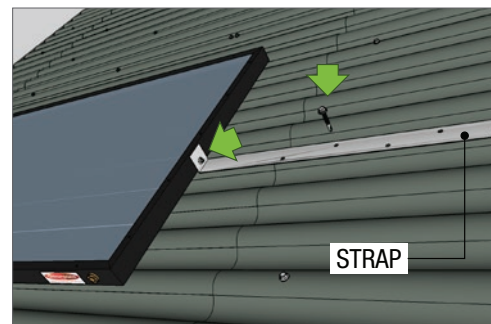
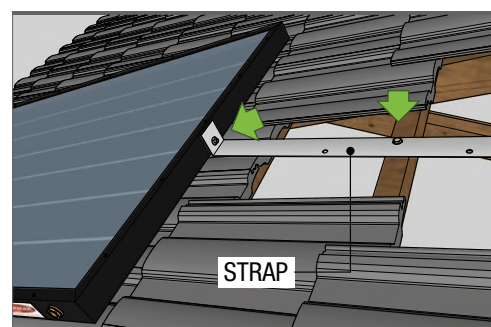

Fig 8
Fig 9
10. Fix the top collector strap to roof either directly through tin / metal sheet and into batten below (Fig 8) or by removing tiles and fastening directly to batten (Fig 9). Replace tiles back over the fastened strap